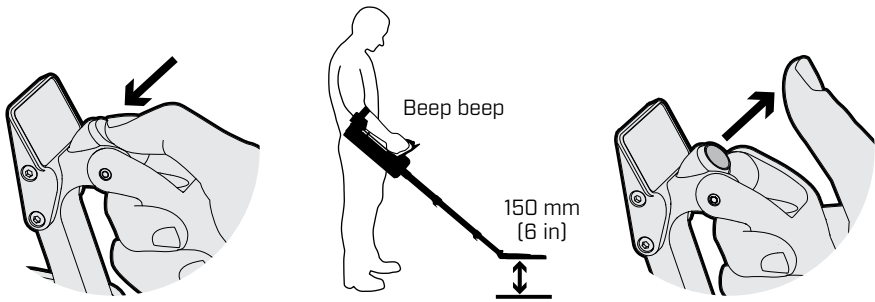

Figure 17: Ground Balance procedure
- a. Press down and hold the green Ground Balance button. Lower the coil directly to the ground then lift the coil up again 150 mm (6 in). Refer to Figure 17.